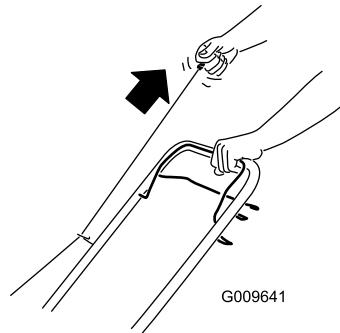

**Figure 13**
1. Hold the blade control bar against the handle (Figure 13).